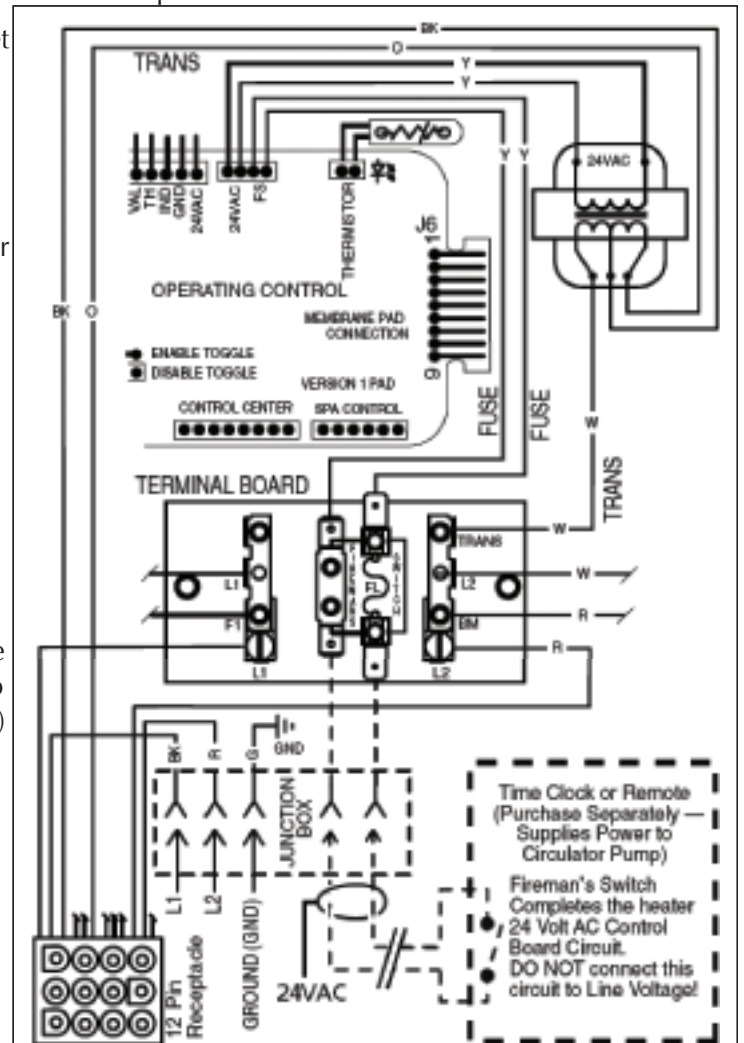

Figure 3-23
5. Connect two #14 gauge wires, designed for use in hot environments, to the two black wires, marked heater connection, on the panel-mounted receiver in the I-Wave Control Center and attach the other end to the two spade terminals at the heater. You can also cut the yellow jumper wire and wire connect the black wires to each yellow wire. (See Figure 3-23.)